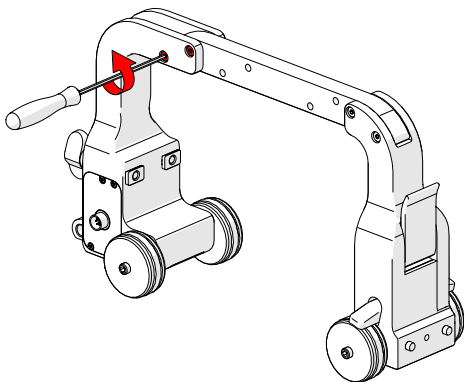

Fig. 18 - Remove shoulder screws
1. Use the supplied 2 mm hex driver to remove the 2 shoulder screws (Fig. 18).